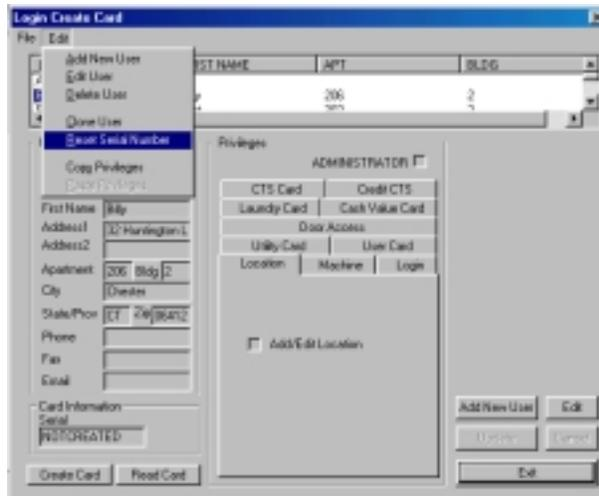

Figure 4.21 Resetting a User’s Card Serial Number
4. Select Reset Serial Number from the Edit drop-down menu (Figure 4.21).